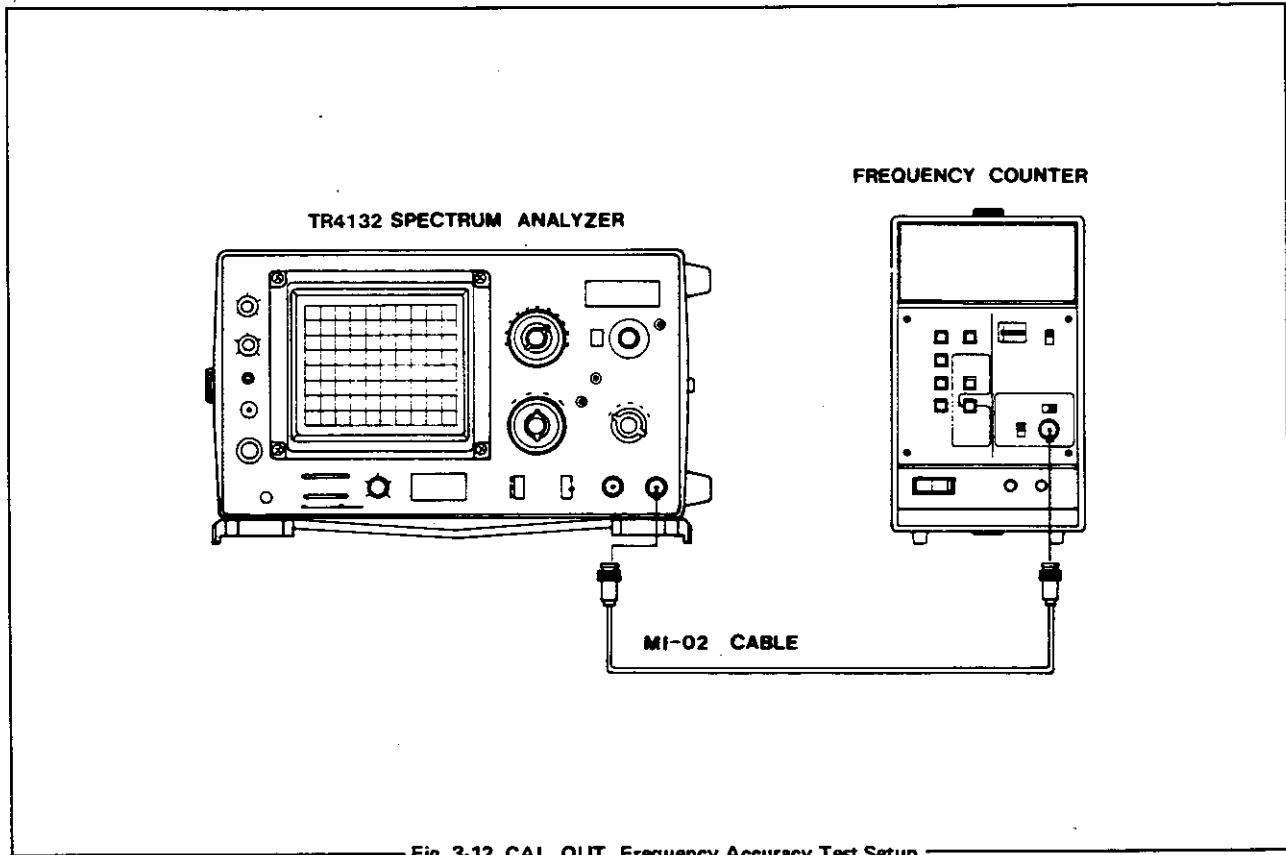

Fig. 3-12 CAL. OUT. Frequency Accuracy Test Setup
(1) Connect **CAL. OUT.** of the instrument to the input of the Frequency Counter. [Fig. 3-12]
(2) Check that the counter reading is between 99.8MHz and 100.2MHz.